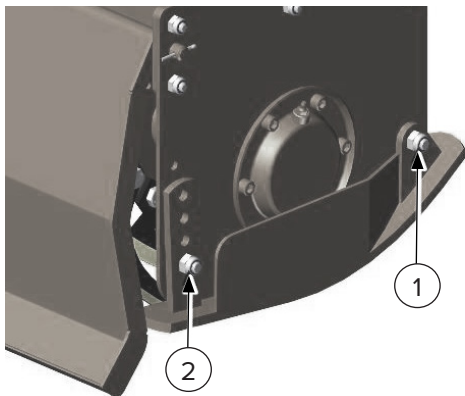

Figure 6
2. Loosen the front bolt. Do not remove it [Figure 6, Item 1].